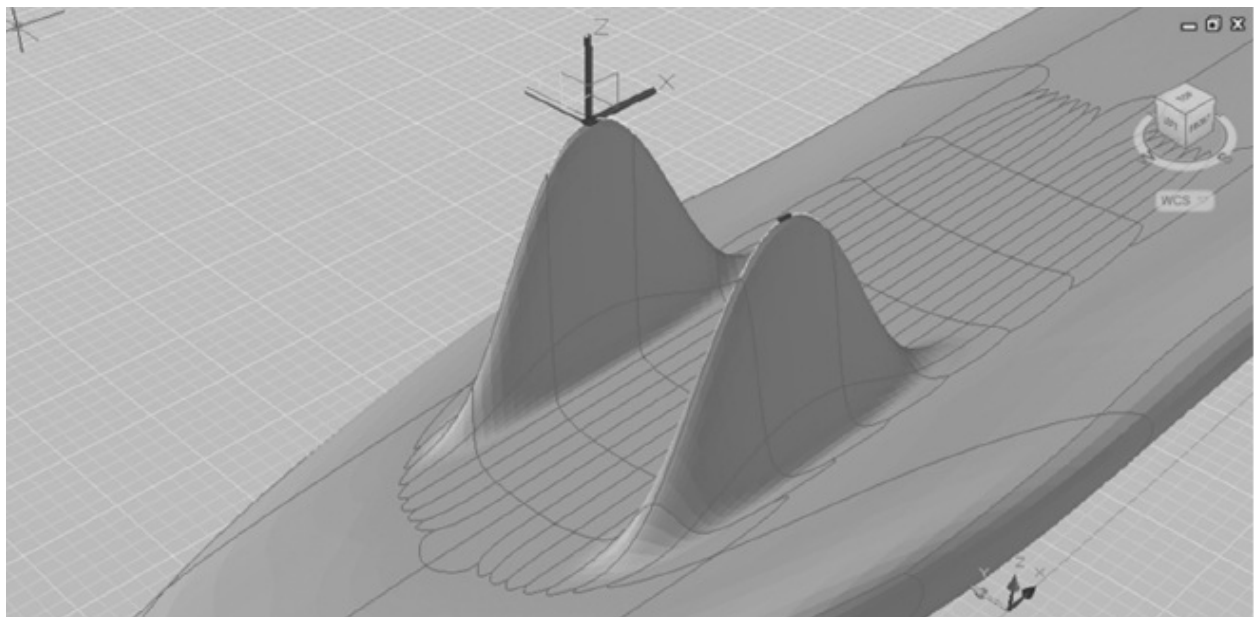

FIGURE 23.19 Adjust the edges to create the fins.
5. Adjust the edges so that they look similar to those in Figure 23.19, and then click the mouse button.